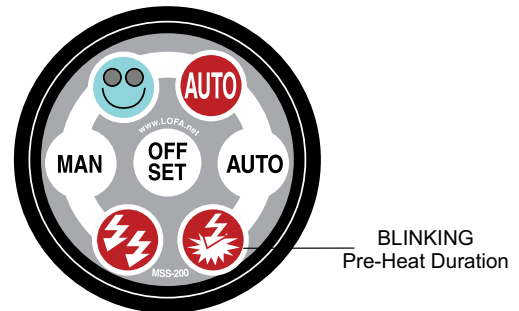

Figure 34. Pre-Heat Duration (Blinking)
2. Releasing the **OFF/SET** button will bring you to **parameter 0, preheat duration** indicated by the flashing of LED 1 (Figure 34).
6. Observe that **LED 1** starts blinking (Figure 34), indicating **preheat duration parameter**. From this point if you wish to enter a user defined pass code, press the **OFF/SET** button **32 times** and perform the procedure shown in Changing Factory Pass Code section in this manual.